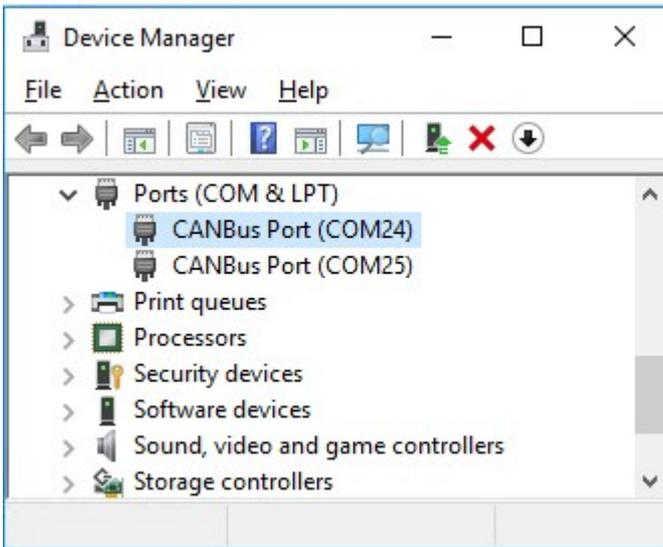

Figure 1. CANBus Port show in Device Manager
e.g., in device manager CANBus Port (COM24) represent CAN1, the <ComPortNumber > is 'COM24' shown in Figure 1. |